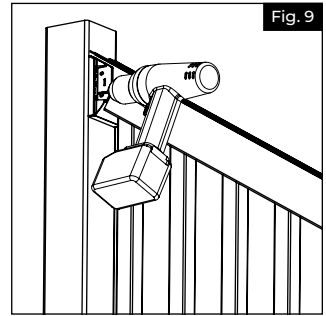

Fig. 9
- Make sure rails are fully seated with balusters and level and centered to post sleeve. While holding the top bracket snug to rail from underneath, and using $\frac{1}{8}$ " drill bit, pre-drill first top bracket screw hole (Fig. 9). Drill through bracket hole, vinyl post sleeve and vinyl insert and loosely install first #10 x $1\frac{1}{2}$ " screw.